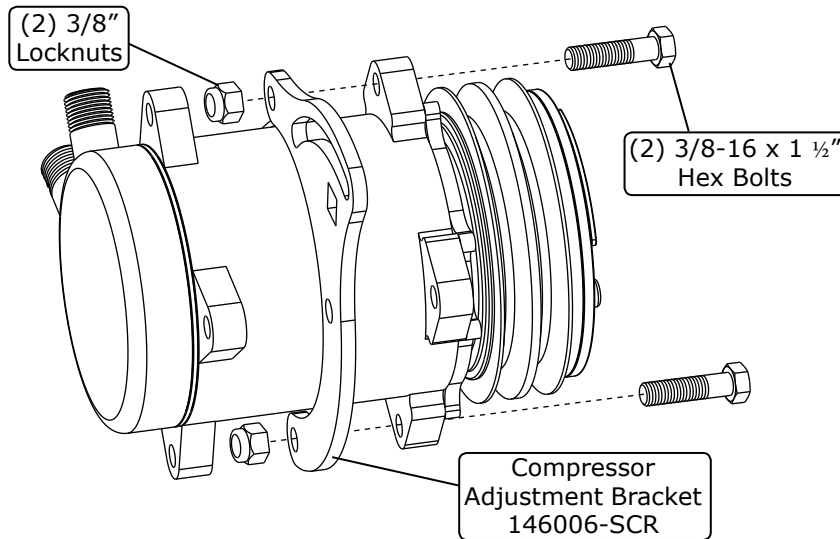

**Figure 3**
1. Install the alternator onto the compressor/alternator bracket assembly using a 3/8-16 x 3" hex bolt, a 3/8" locknut, a 5/16-18 x 3/4" hex bolt, and a 5/16" flat washer as shown in Figure 3, below.